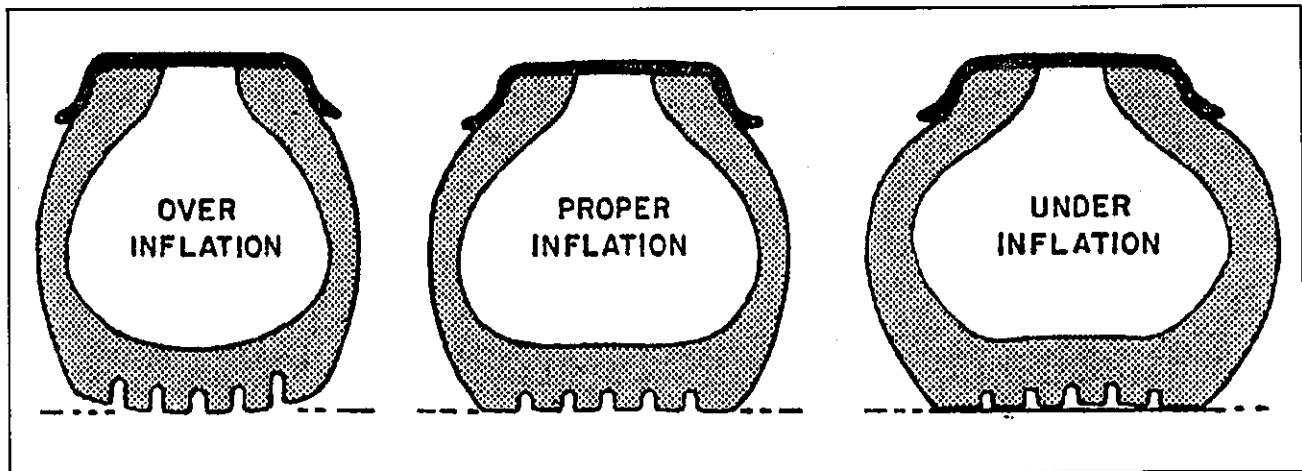

Fig. 4-9 Tire Inflation Examples
**4-11.1 Tire Inflation.** Tire inflation will cause tire to ground contact characteristics as shown in Figure 4-9. Tire inflation should be checked daily while the tire is cold, and during road stops. Checking the tire pressures while tires are hot will give a faulty increased pressure reading. Adjusting tire air pressure to the specified amount while tires are hot will produce improper tire to road contact and thus abnormal wear. Do not exceed cold inflation pressure listed on the trailer VIN plate located on the front of the semitrailer. Exceeding cold inflation pressure will result in damaged tire bodies, rims, and wheels. Replace all valve stem caps when pressure checking/adjusting has been completed. Remove any foreign objects from between duals.